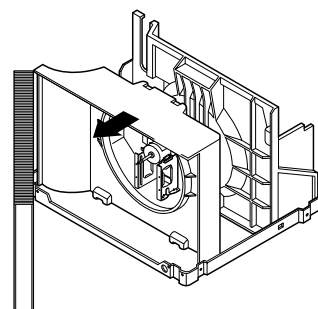

Figure 18
2. Remove the shroud. (See Figure 18)